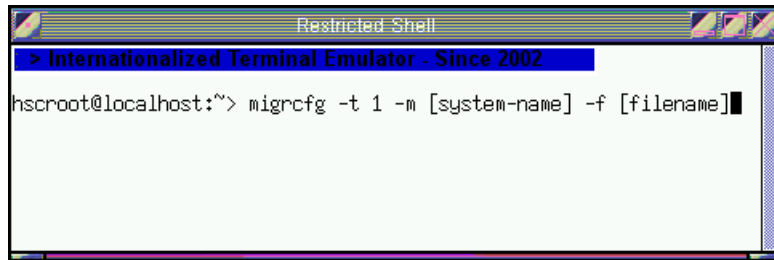

Figure C-9 Restricted Shell Terminal - Command
- d. A restricted shell terminal displays as shown in Figure C-9. You can enter the commands to start the migration process. Load your diskette or CD that contains your configuration data into your HMC drive. Then, enter the following command: